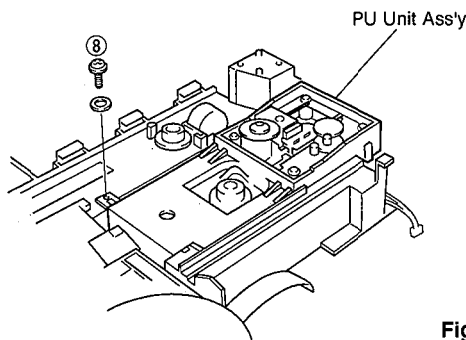

Fig. 4
- a. Remove 1 screw (8) and then remove the PU Unit Ass'y as shown Fig. 4.